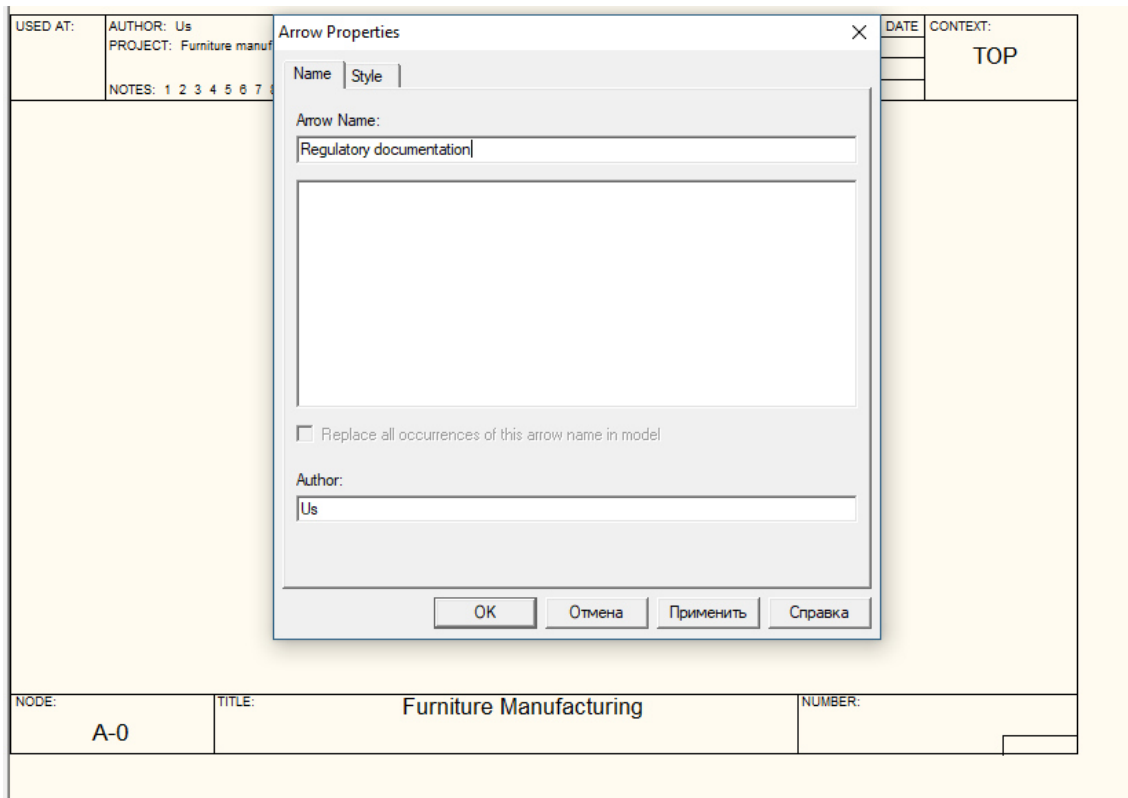

Fig. 1.13. The Arrow Properties dialog box
4. Enter the arrow title **Regulatory documentation** in the dialog box (fig. 1.13).